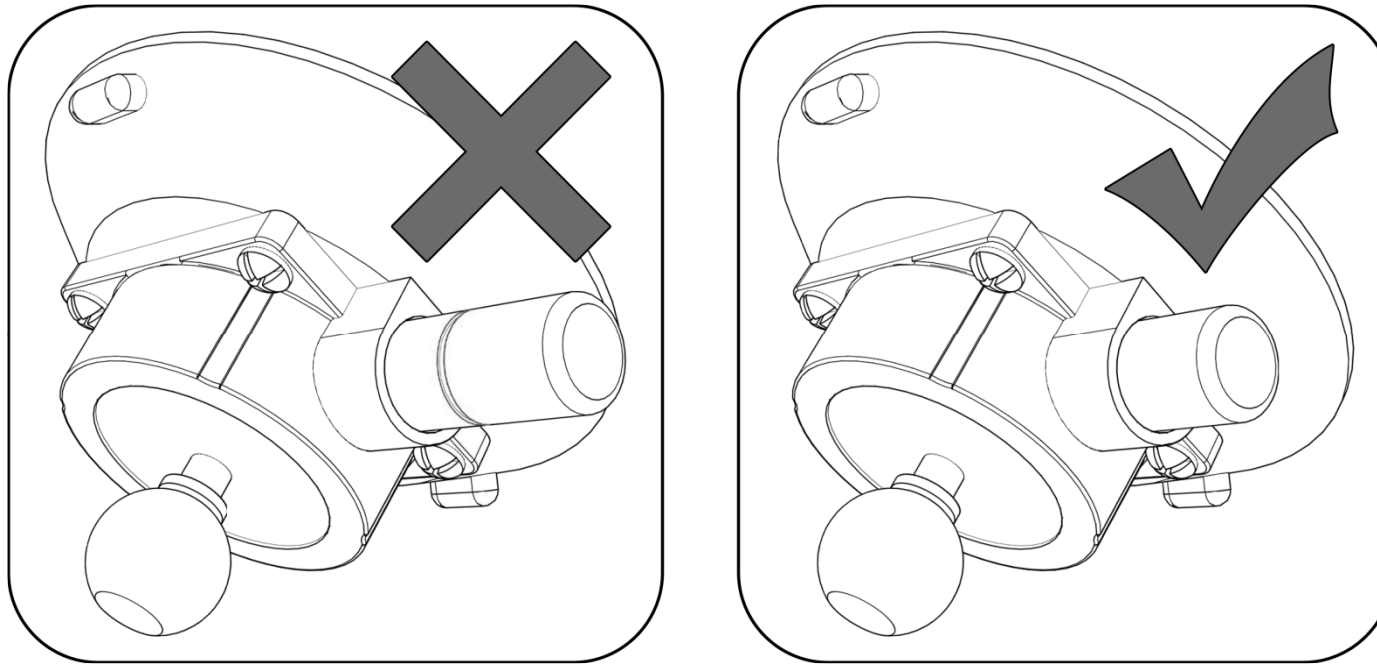

Figure 6.2 Pump the light grey button until the red line can no longer be seen
- with your free hand repeatedly pump the light grey button until the red line can no longer be seen as shown in Figure 6.2 . Only once this red line is hidden is the mount secure